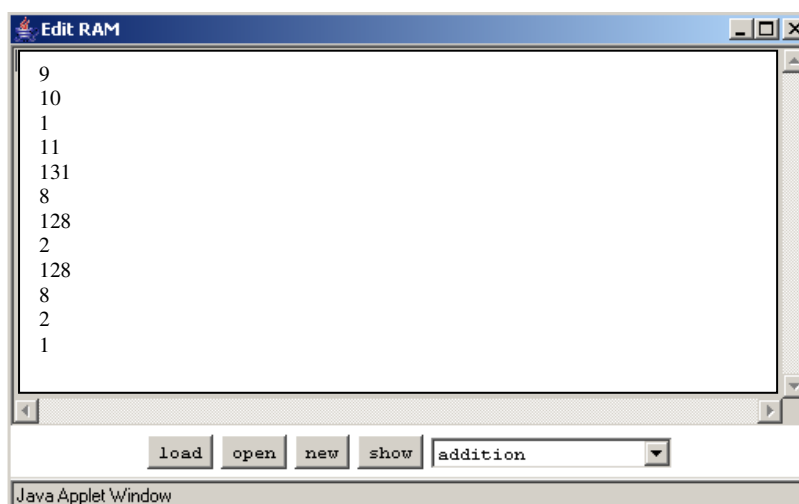

Figure 3.1
3. Press the **new** button and start writing your program in this new window. (See figure 3.1)